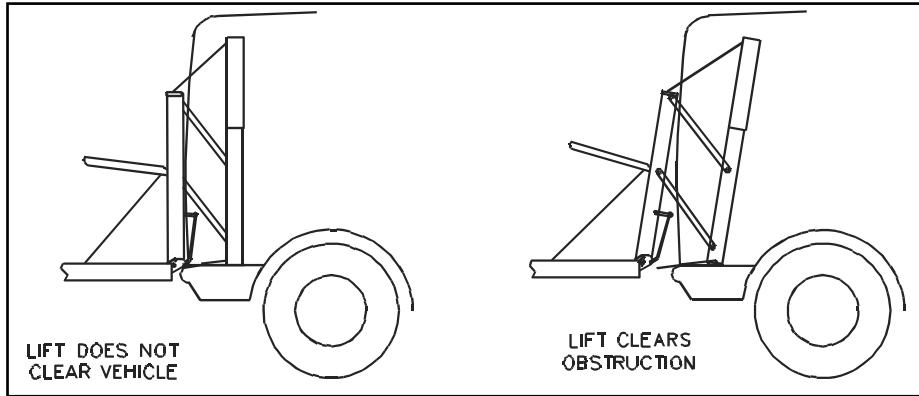

FIGURE 2-15: LIFT OPERATING CLEARANCE
- i. Refer to **Figure 2-15**. Using Control Pendant, CAREFULLY DEPLOY lift while observing for any contact with vehicle doorsill, bumper, or external accessories. (If lift does not clear vehicle, reposition or readjust extension bracket, intermediate bracket and/or base plate